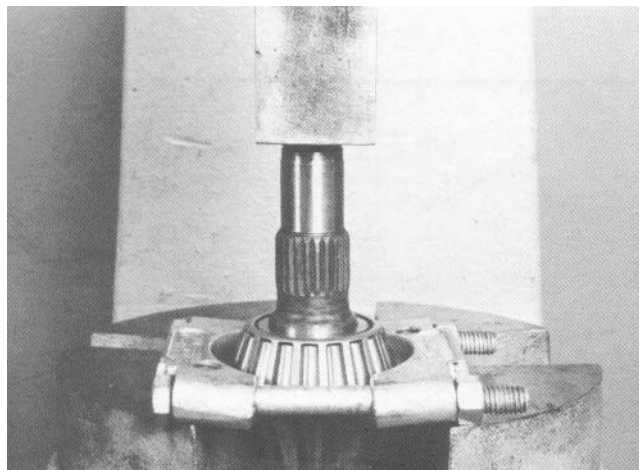

Figure 35
15. Clamp the inner pinion bearing with a universal bearing remover (Fig. 35). Position the unit in a press and carefully push the drive pinion out of the bearing.